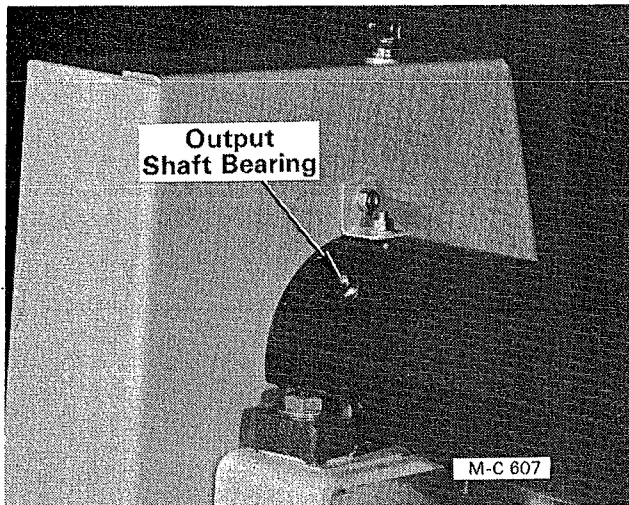

Figure 15
3. Output shaft bearing (1). Reach through hole in output shaft guard, see Figure 15.